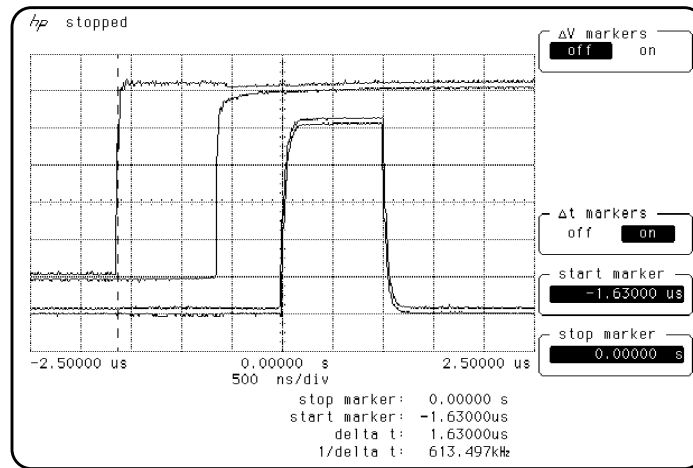

Figure 69 Oscilloscope Display of Minimum and Maximum Gate Delay Values
- 7 On the oscilloscope, press **start marker**. Use the knob to position the start marker on the upper trace on the right side of the oscilloscope display. See Figure 69.